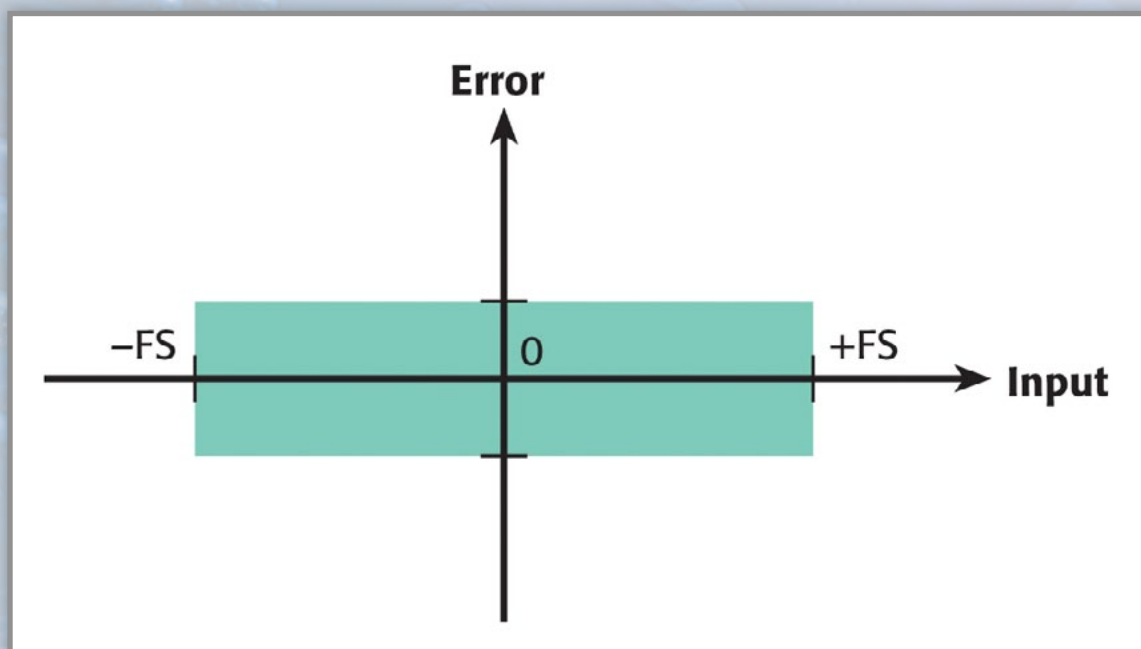
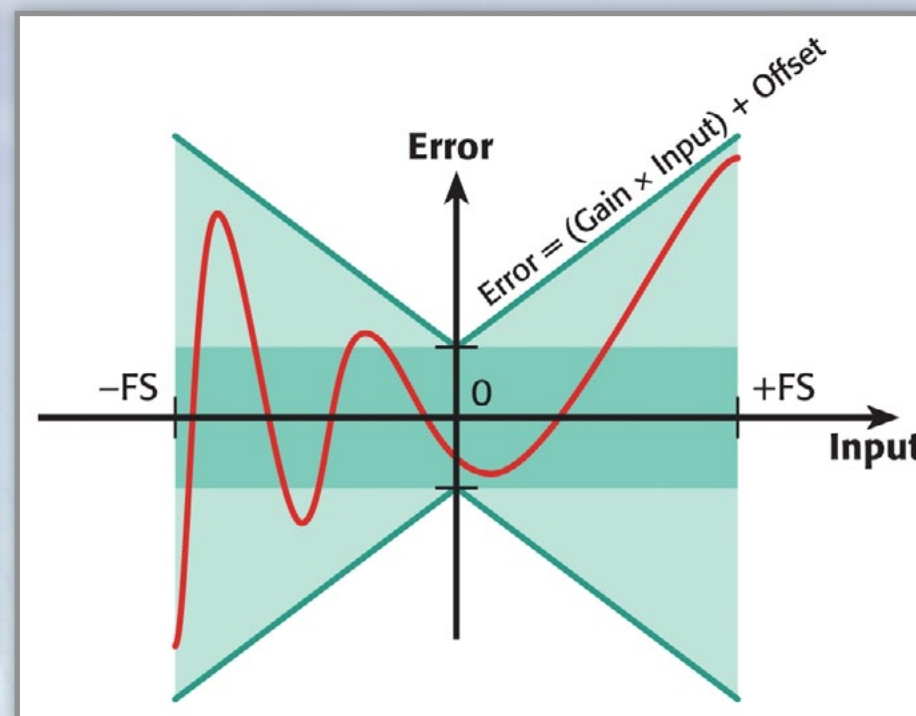

Figure 1
Figure 2
■ **Accuracy.** Keithley normally expresses its accuracy specifications in two parts, namely as a proportion of the value being measured, and a proportion of the scale that the measurement is on, for example: \pm (gain error + offset error). This can be expressed as \pm (% reading + % range) or \pm (ppm of reading + ppm of range). The range in **Figure 1** is represented by FS or “full scale.” For example, the specification for Keithley’s Model 2000 6½-digit multimeter, when measuring voltage on the 1V range, states an accuracy of 30ppm of the reading + 7ppm of range. The green box represents the offset error, which is expressed either as a percentage of the range or ppm of the range. **Figure 2** illustrates the gain error, which is expressed either as a % of the reading or ppm of the reading. When carrying out a reading, we can expect the error to be anywhere within the purple and green areas of the graph. Accuracy specs for high-quality measurement devices can be given for 24 hours, 90 days, one year, two years, or even five years from the time of last calibration. Basic accuracy specs often assume usage within 90 days of calibration.